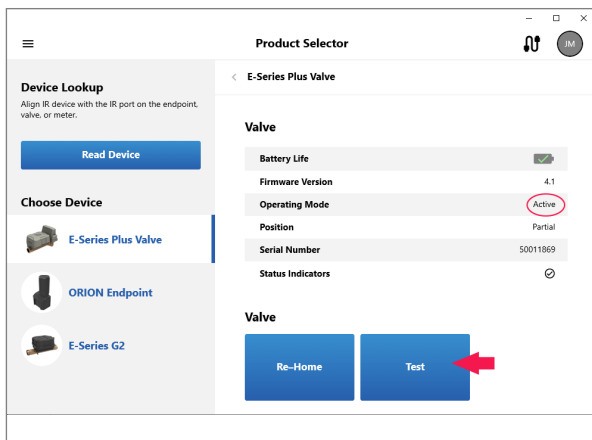

Figure 25: Select Test mode
1. To place the valve into Test operating mode, align the IR device with the valve IR port and select **Read Device**. Figure 25 shows the valve is currently in Active operating mode.